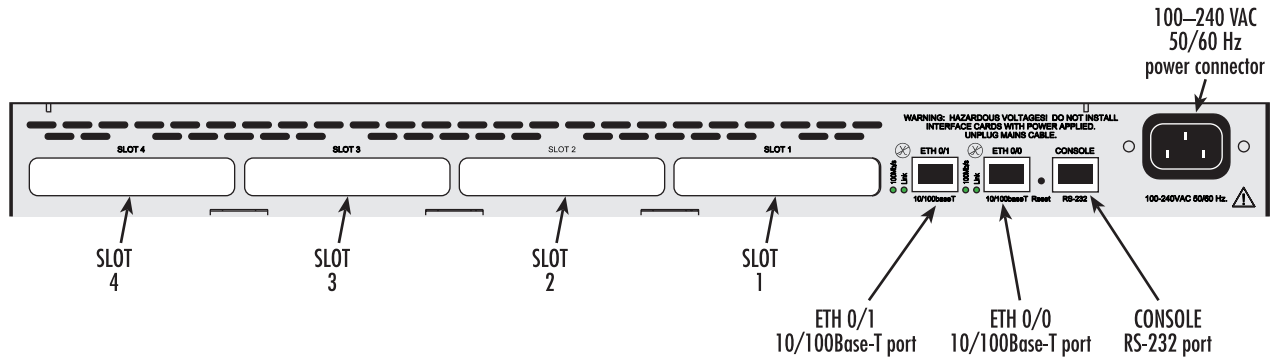

Figure 67. SmartNode 2400 connectors
1. Installing the 10Base-T or 100Base-T Ethernet cables into ports *ETH 0/1* and *ETH 0/0* (see figure 67) (see “Installing the Ethernet cables” on page 107).
1. Insert the barrel type connector end of the AC power cord into the 100–240 VAC power connector (see figure 67).